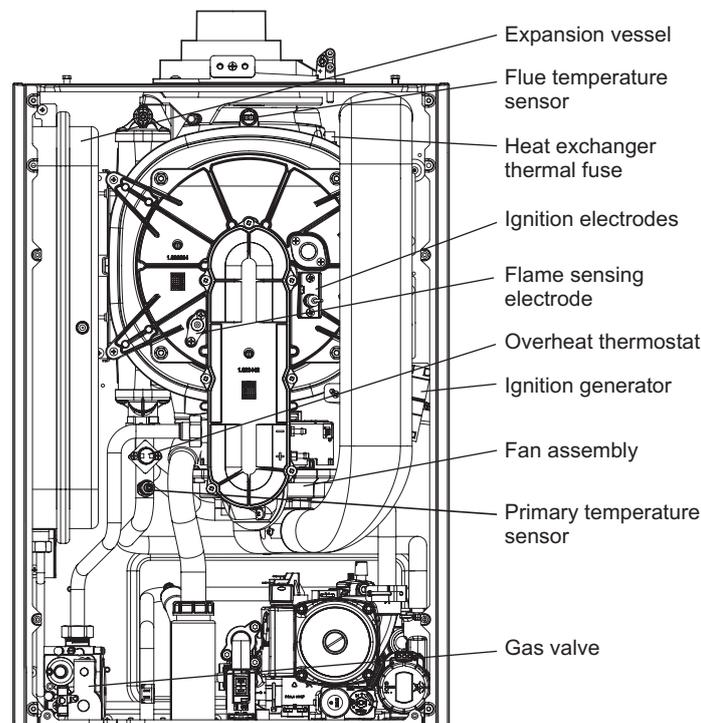

Fig. 30
7.3 ELECTRODES - Fig. 30
7.7 IGNITION GENERATOR - Fig. 30
7.8 OVERHEAT THERMOSTAT - Fig. 30
7.9 FLUE TEMPERATURE SENSOR - Fig. 30
7.10 GAS VALVE - Fig. 30
7.21 PRIMARY HEAT EXCHANGER - Figs. 30 and 33
3. Unplug the connections from the flue temperature sensor and thermal fuse, see Fig. 30.